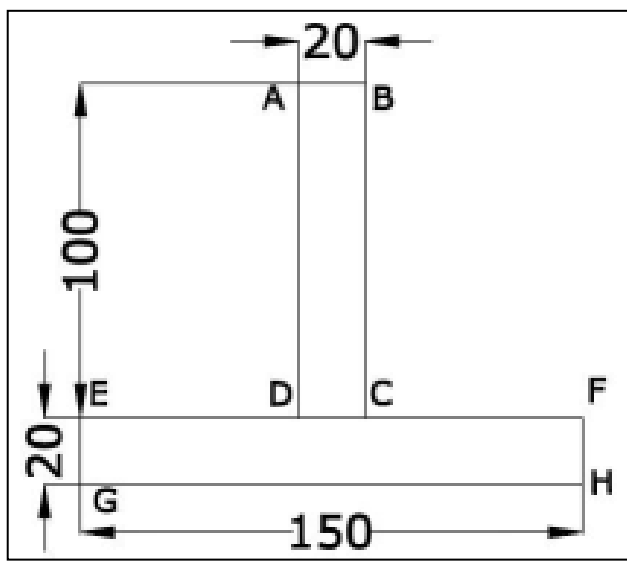

Fig. 1
2. (a) Find the centroid of the lamina shown in Fig. 1 (All dimensions are in mm.)
- (b) Determine the value of moment of inertia of the section mentioned in Fig. 1 along both the axes.